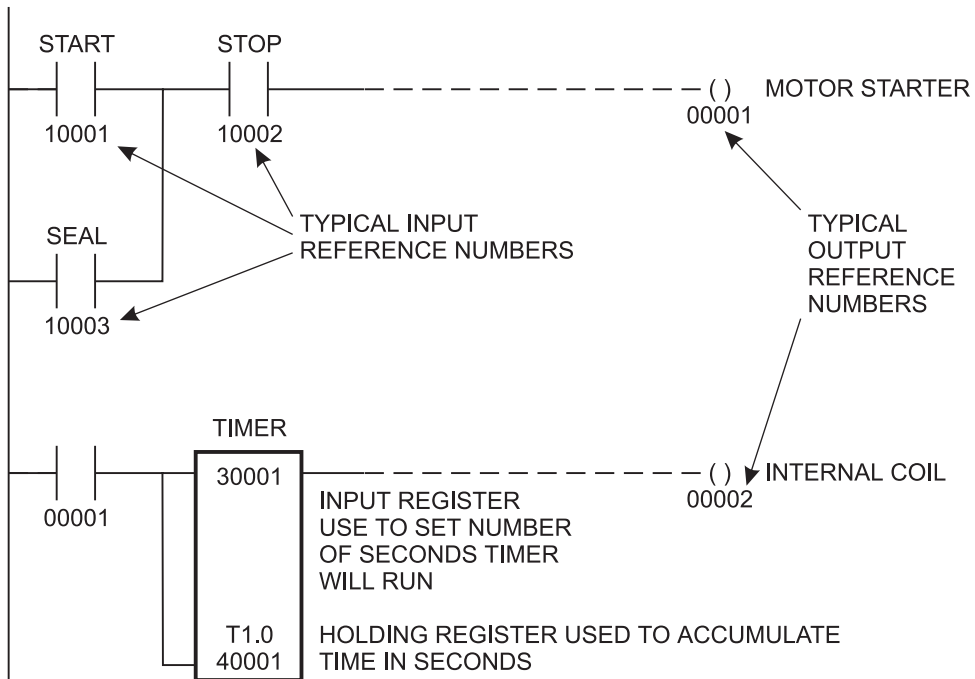

Figure 4-3
- Typical registers that the Learner will access or modify include timers, up counters, and down counters. See Figure 4-3.